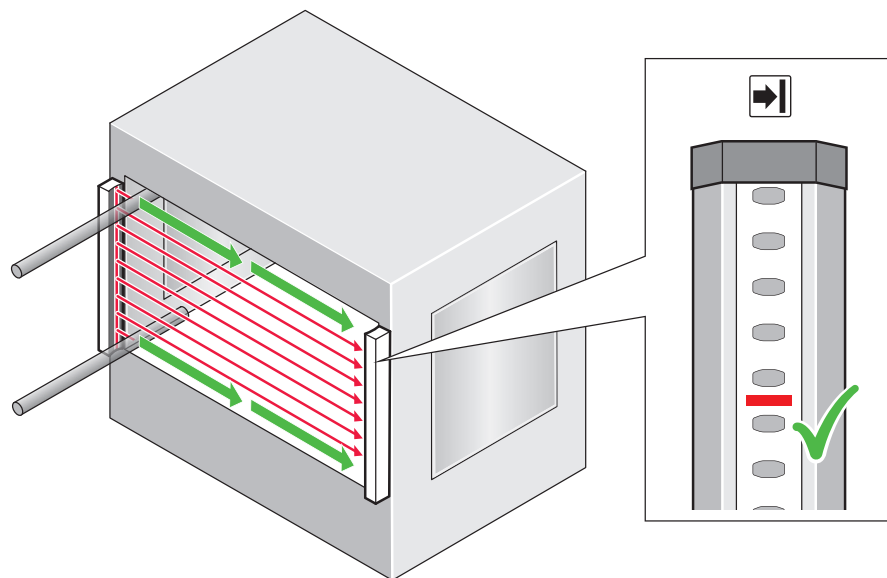

Figure 26: Test rod check: Step 3
3. Then, guide the test rod along the edges of the area to be protected, as indicated by the arrow, see figure 26.